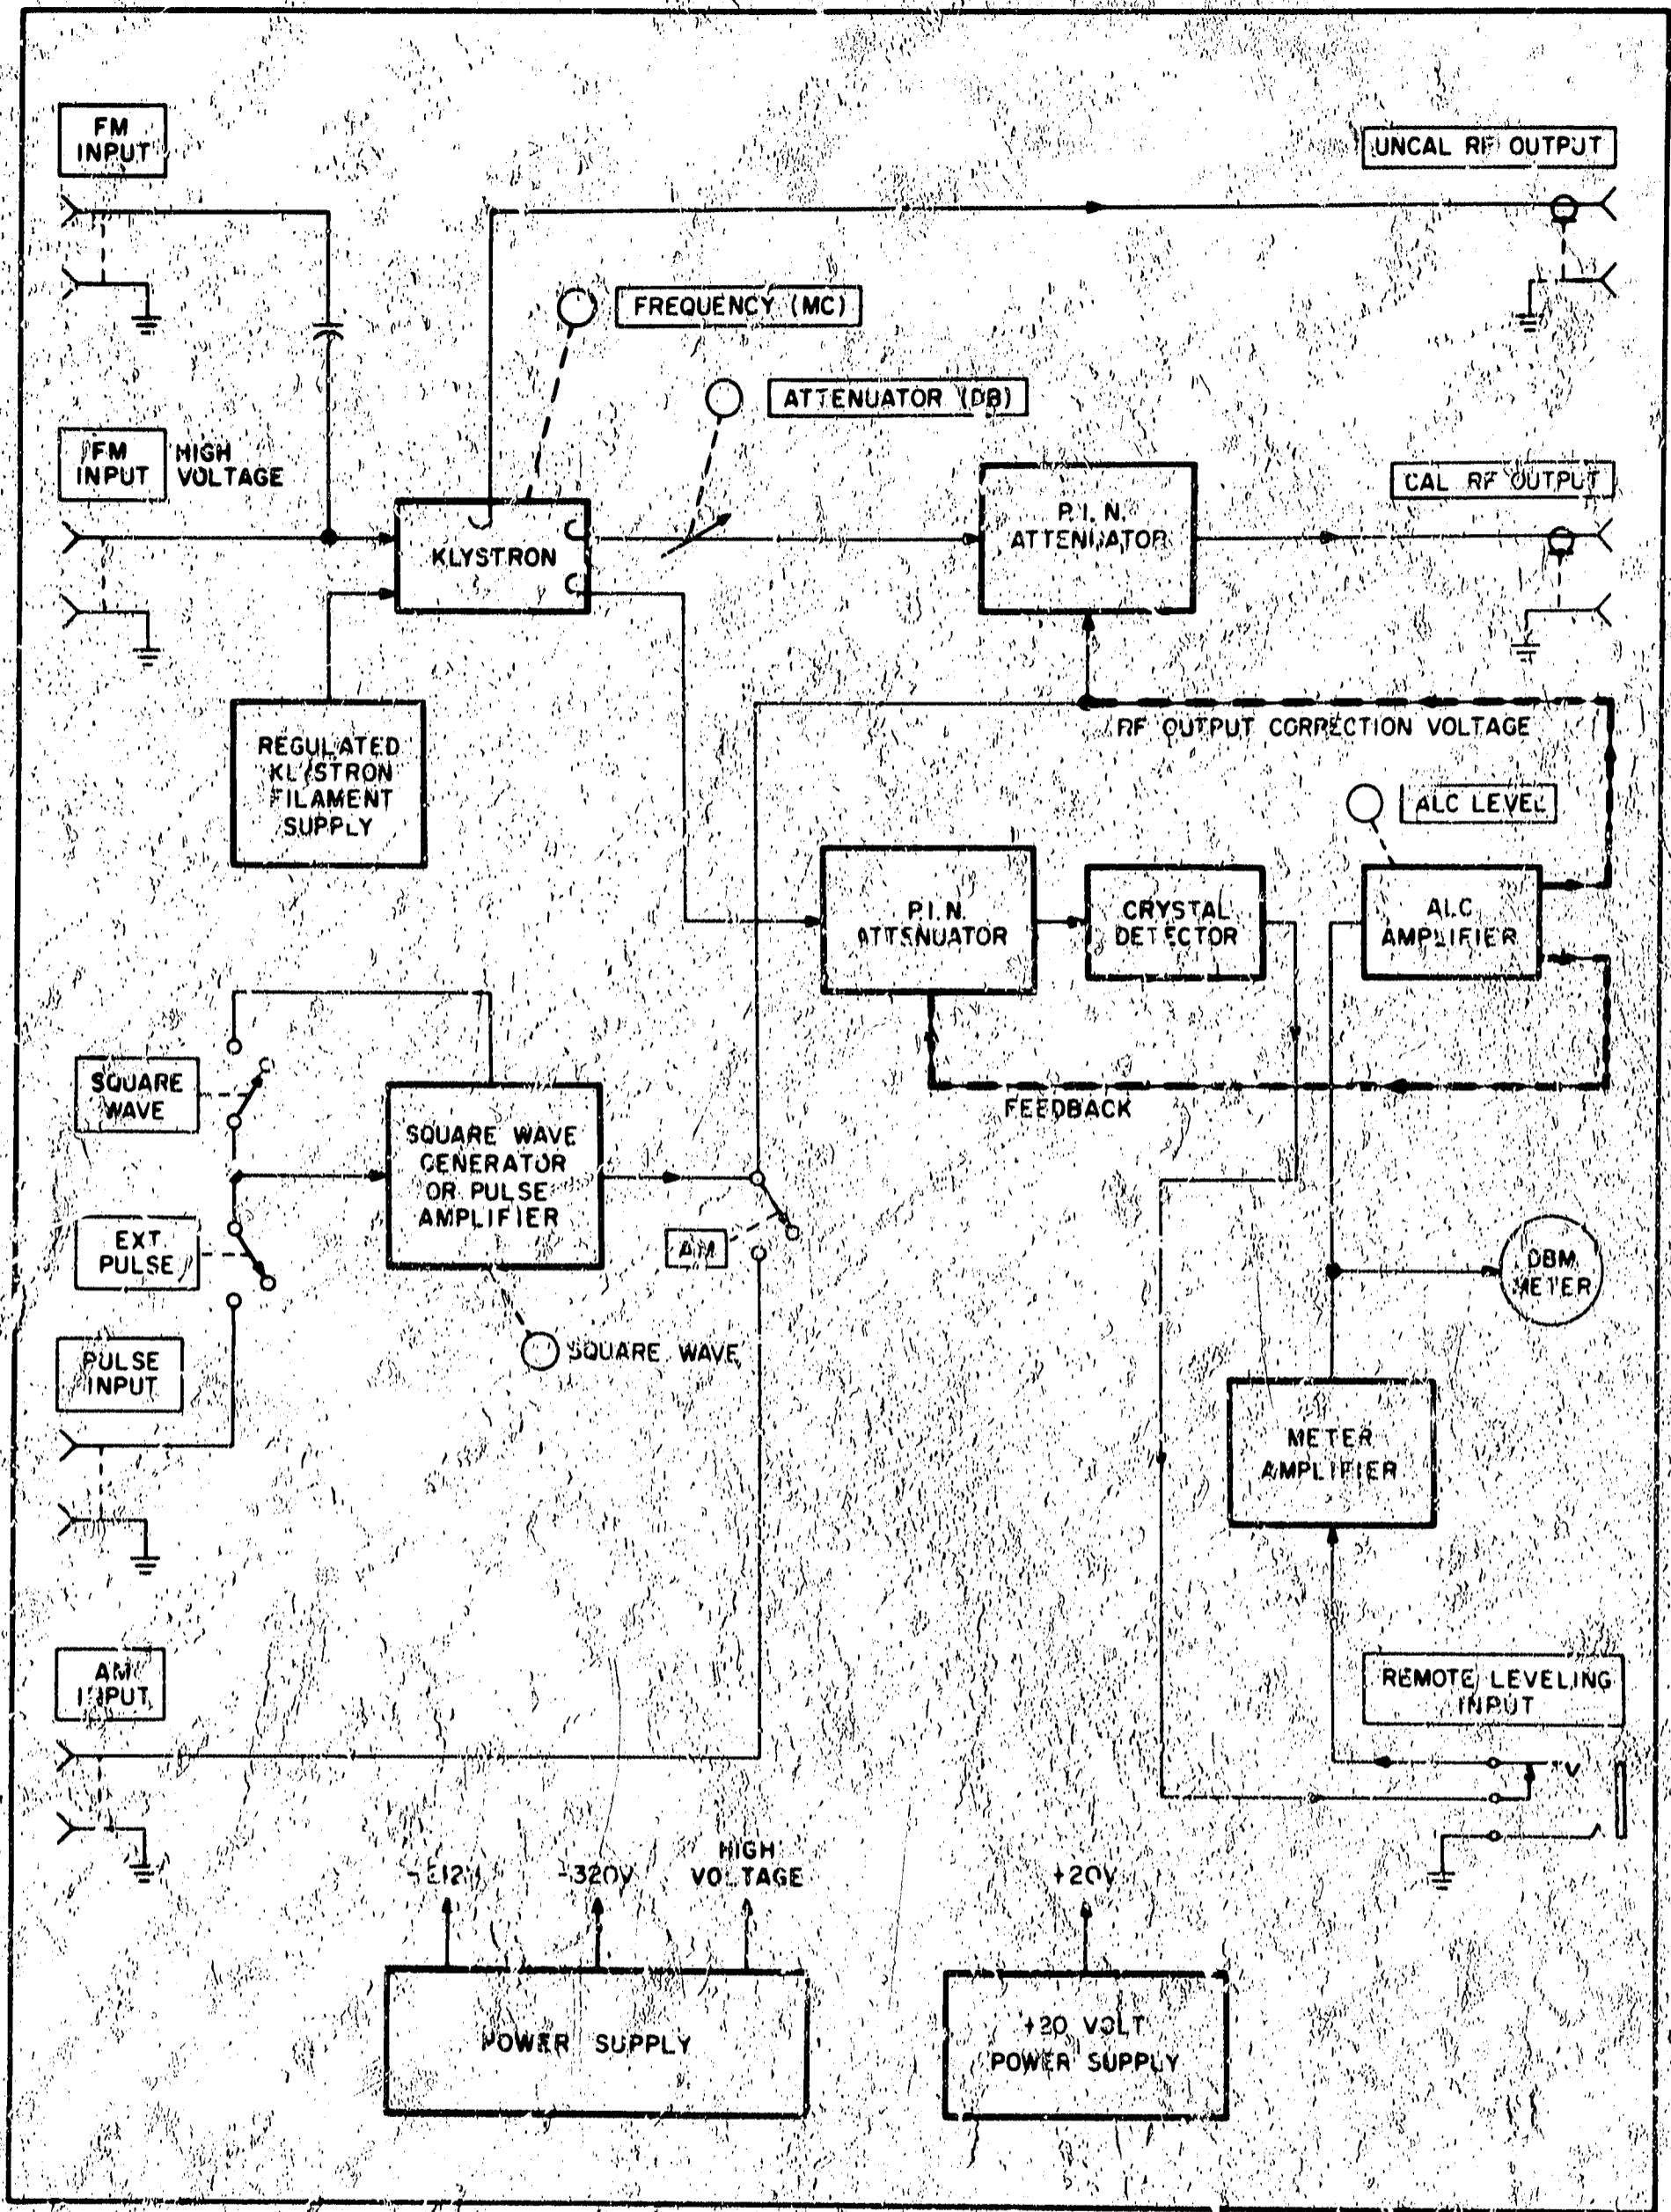

Figure 5-1 Model 8616A Block Diagram
c. ISOLATING TROUBLE TO A SPECIFIC CIRCUIT. Because each mode of operation uses different circuit combinations (see Figure 5-1), trouble can be isolated to a specific circuit by checking the operation of each mode of operation in logical order.
(1) LEVEL OUTPUT CHECK